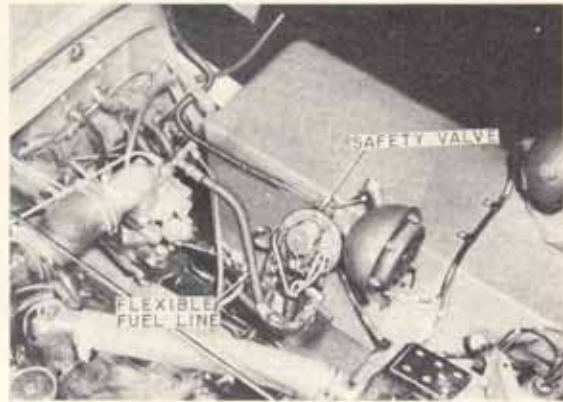

Figure 7
4. Mount the heater safety valve using the three holes just drilled. The safety valve and filter are already assembled to the mounting bracket which has three $\frac{1}{4}$ -20 x $\frac{3}{8}$ cap screws, lockwashers and nuts for mounting purposes (Figure 7). Place the No. 11 terminal of the wiring harness under one of the mounting screws.
4. Install the threaded end of the flexible heater fuel line in the side of the tee and connect the flared end of the line to the elbow which is already installed in the shut off cock at the inlet of the heater fuel filter (see Figure 7). Tighten all fittings securely to prevent fuel leakage.